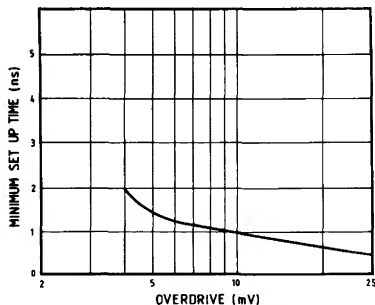

Fig.7  $T_s$  v. overdrive setup time
2. This parameter is defined with  $+100$  mV input and  $-10$  mV overdrive, corrected to take account of the comparator offset, i.e. the switching threshold effectively is at OV on the input waveform. The relationship between setup time and overdrive is shown in Fig.7. The test circuit diagram, Fig. 4 indicates a method of performing this test.